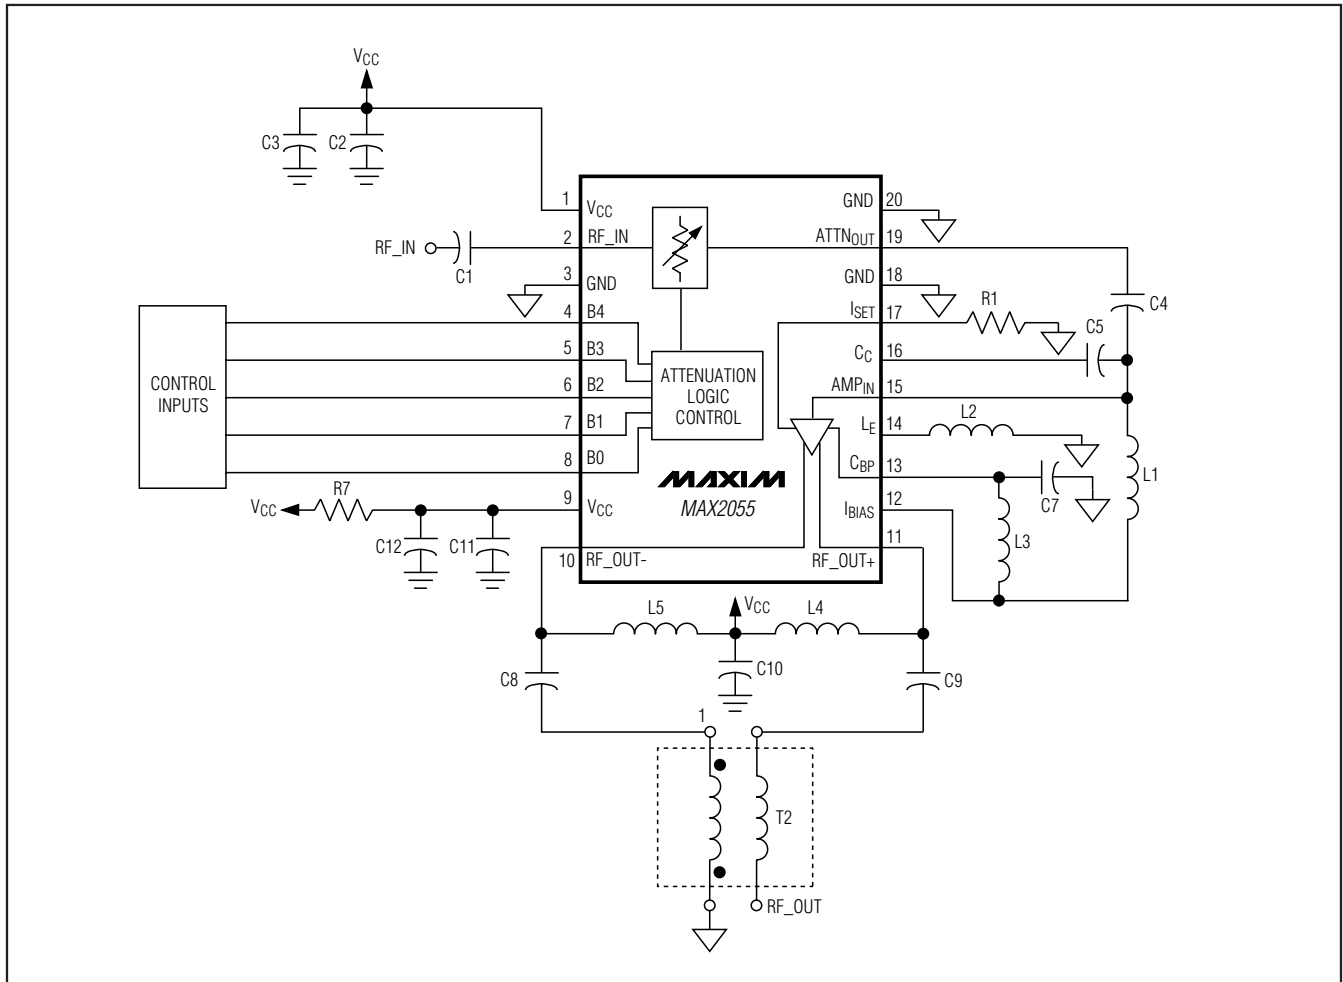

Figure 2. Low-Cost Application Circuit
(Circuit of Figure 2,  $V_{CC} = 5.0V$ ,  $R_1 = 909\Omega$ , max gain, ( $B_0 = B_1 = B_2 = B_3 = B_4 = 0$ ),  $P_{OUT} = 5dBm$ ,  $T_A = +25^\circ C$ , unless otherwise noted.)
**Table 2. Suggested Components of Circuit of Figure 2**
feedback topology. This amplifier is optimized for a frequency range of operation from 30MHz to 300MHz with a high-output third-order intercept point (OIP3). The bias current is chosen to optimize the IP3 of the amplifier. When R1 is 1.13kΩ (909Ω if using the circuit of Figure 2), the current consumption is 240mA while exhibiting a 40dBm typical output IP3 at 70MHz. The common-mode inductor, L2, provides a high common-mode rejection with excellent amplitude and phase balance at the output. L2 must handle the supply current and have DC resistance less than 0.2Ω.